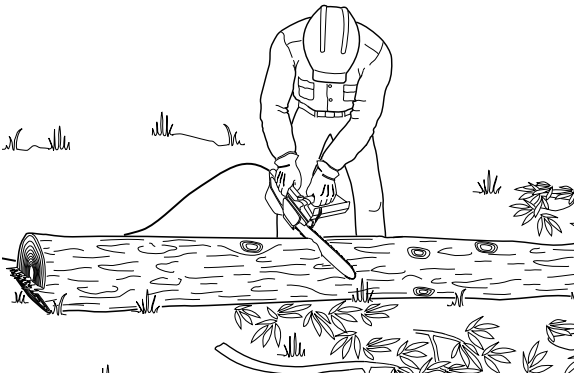

Figure 15 - Bucking Log With Entire Length On Ground
1. Cut log from top two thirds of the diameter (see Figure 15). Roll log over and complete cut.